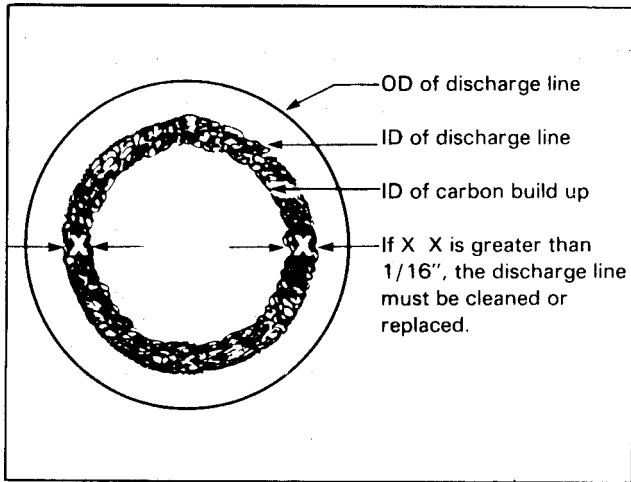

Fig. 8-3. Air discharge line
4. Inspect the air discharge line from the air compressor. If the total carbon deposit thickness (Fig. 8-3) inside the air discharge line exceeds 1/16 inch, remove the head and clean the air passages thoroughly. Also remove and clean or replace the discharge line. Contact the nearest Cummins Distributor or refer to Cummins Bulletin 3379056, "Air Equipment Rebuild Manual" for removing the air compressor head.